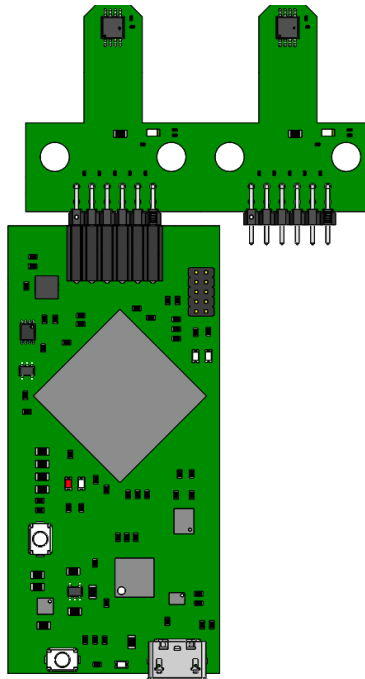

Figure 4-1. EVM on TI-SCB Controller
2. Attach the EVM to the Sensor Control Board (TI-SCB) (see Figure 4-1).
To use the EVM with the included TI-SCB Controller, connect the EVM as shown in Figure 4-1.